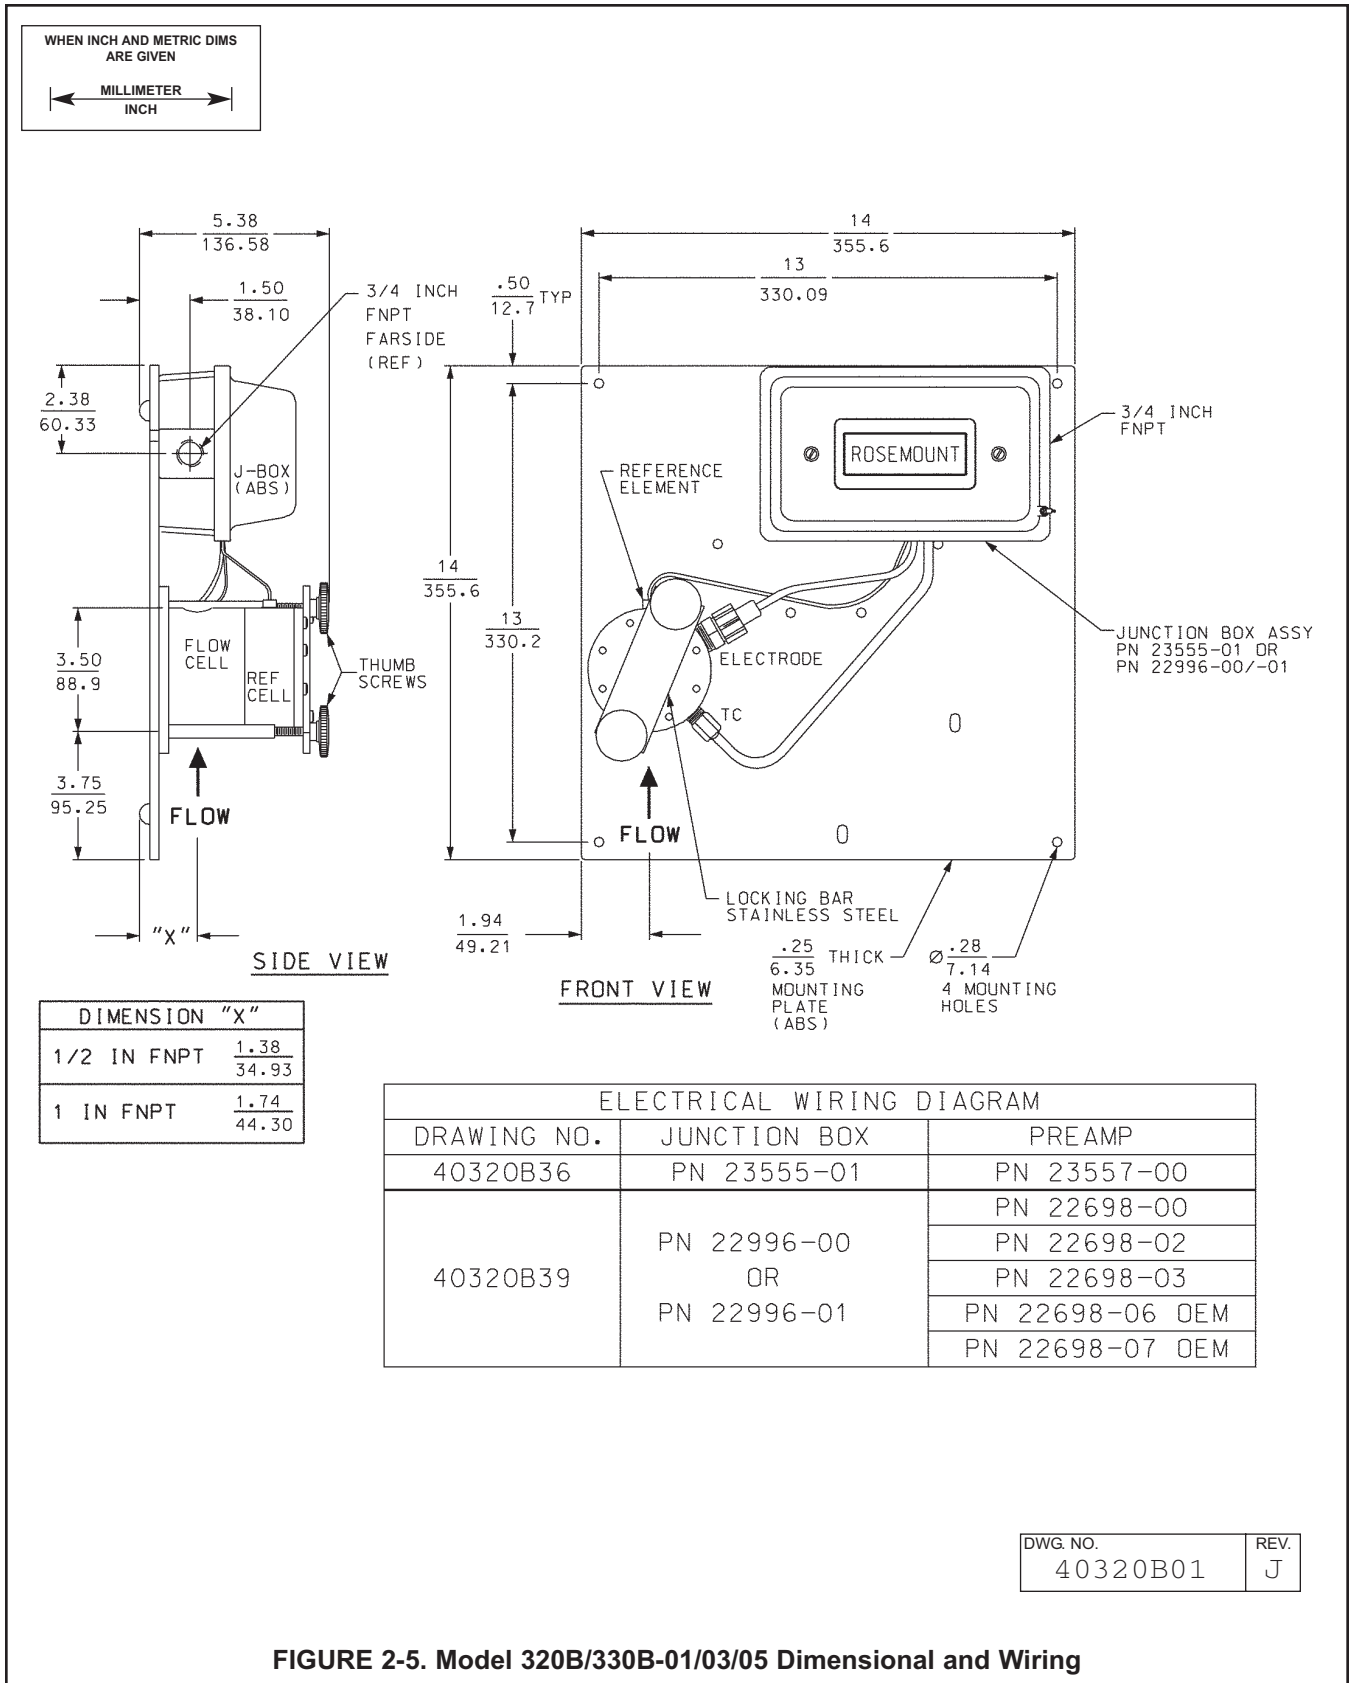

FIGURE 2-5. Model 320B/330B-01/03/05 Dimensional and Wiring
2.3.2 Electrical. Refer to Figure 2-5 and Proceed as follows:
3. Install the pH electrode into the sensor's flow cell as shown in Figure 2-5.
4. Plug the preamplifier into the junction box (Figure 2-5).
5. Connect the pH electrode to the preamplifier (Figure 2-5).
6. Connect the temperature compensator (where applicable) (Figure 2-5).
3. Check all electrical connections for security. Make sure all wires are properly dressed so they do not short or ground. Make sure the instrument is wired as illustrated in Figure 2-5.